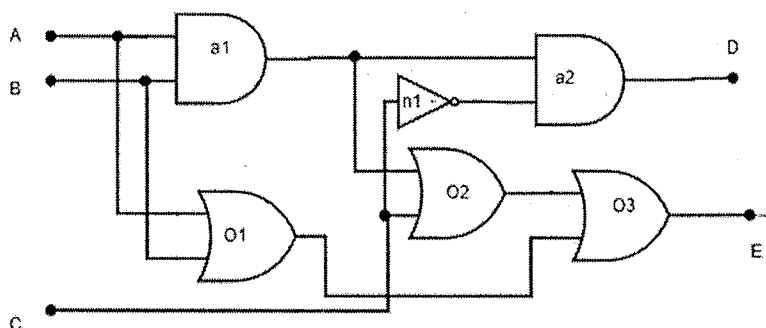

Figure Q3: Combinational Circuit
Figure Q3 depicts a combinational circuit that has input (A,B,C) and output (D,E) as below.
- Re-draw the simplified "Figure Q3" circuit using 2 input 1 output logic gates. (4 marks)